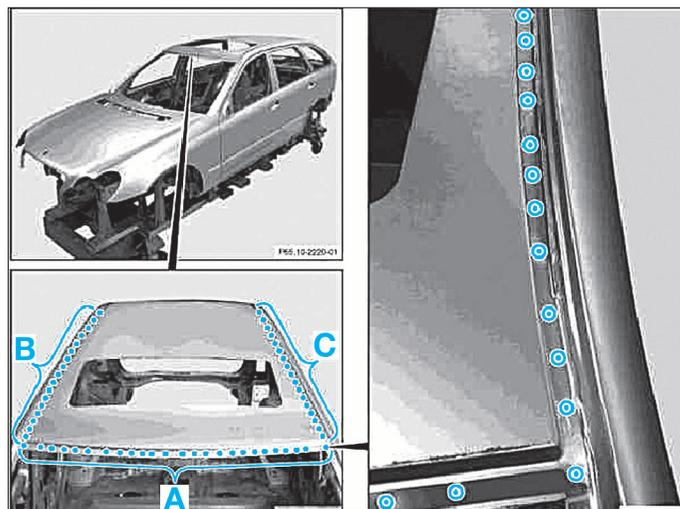

FIG. 129
- zones (A), (B) et (C) (Fig.129).